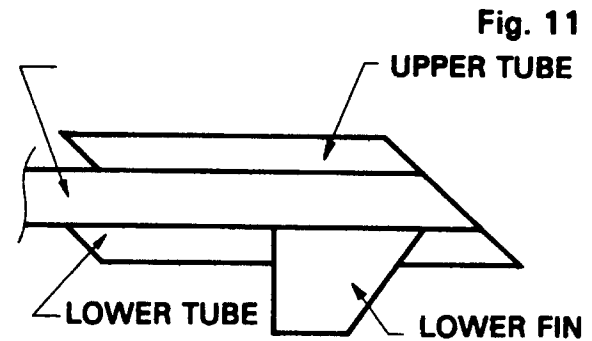

Fig. 11
12. Glue the Upper Tube into position on the top of the Main Body; aligned so that it is even with the angled cuts of the other tubes. (Fig. 11).